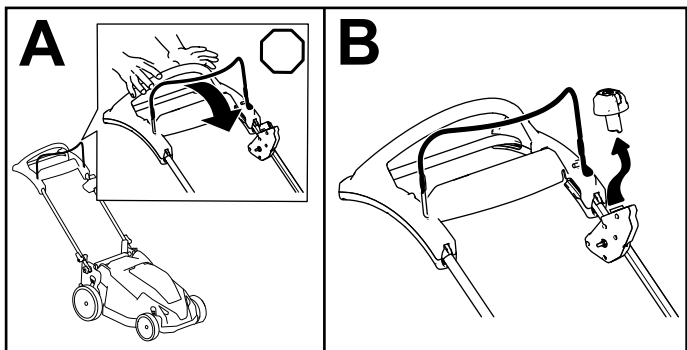

Figure 17
1. Release the control bar (A of Figure 17).
2. Remove the electric-start button from the electric-start switch (B of Figure 17).